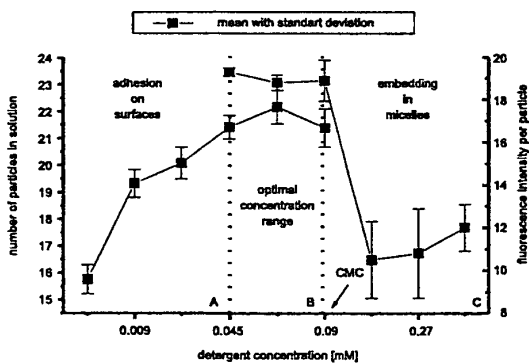
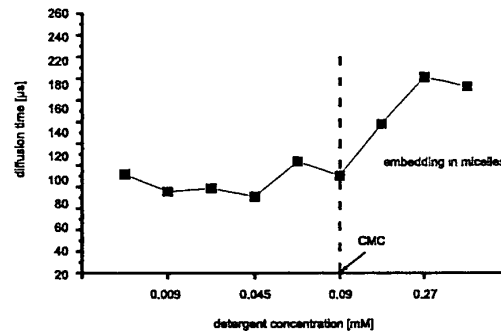

FIG. 3 Influence of increasing detergent concentration on the number of particles and the fluorescence intensity per particle.
FIG. 4 Influence of the detergent concentration on the diffusion time.
Fluorescently labelled peptides were analysed in the presence of increasing detergent concentrations. FCS measurements at each detergent concentration yielded the following results: At low detergent concentrations, the loss of peptide molecules by adhesion to surfaces is measured by a decreasing number of particles, (FIG 3 (A)). High detergent concentrations affect the formation of micelles, in which fluorescent molecules could be embedded2. This results in increased diffusion times (FIG 4) and reduced fluorescence intensity (FIG 3 (C))